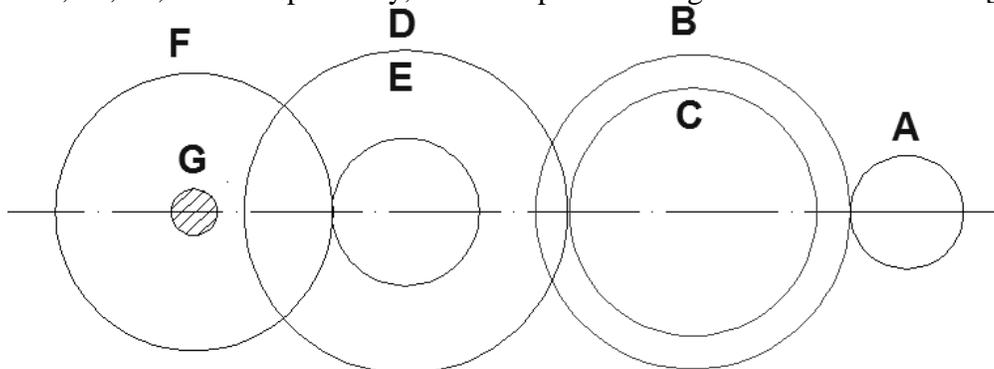

Figure: 4
- b) The gearing of a machine tool is shown in Figure 4. The motor shaft is connected to the gear A, and rotates at 975 rpm. The gears B – C, and D –E are compound wheels fixed to parallel shafts, and rotate together. The final gear F is fixed on the output shaft 'G'. If the number of teeth on gears A, B, C, D, E, and F are 20, 50, 25, 75, 26, and 6 respectively, find the speed of the gear F. [5+5]